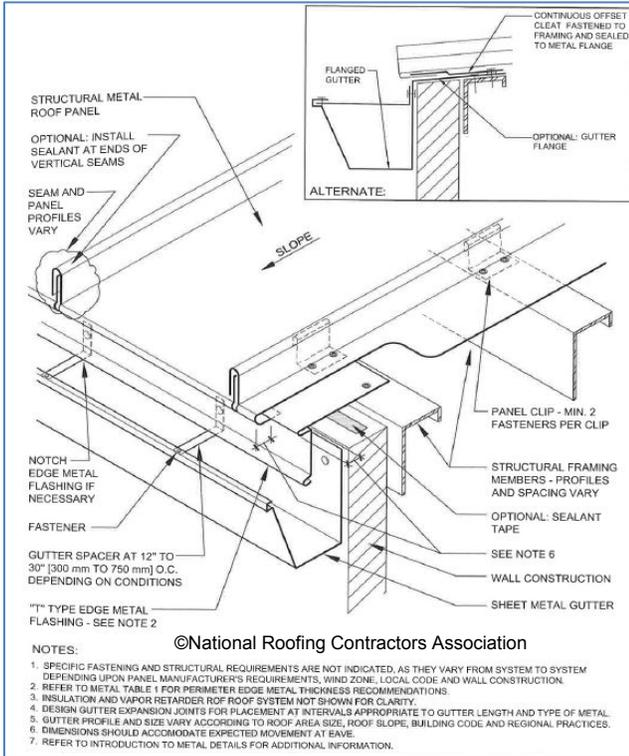

Figure 10-64
- Figure 10-64, "T"-Type Downslope with Gutter